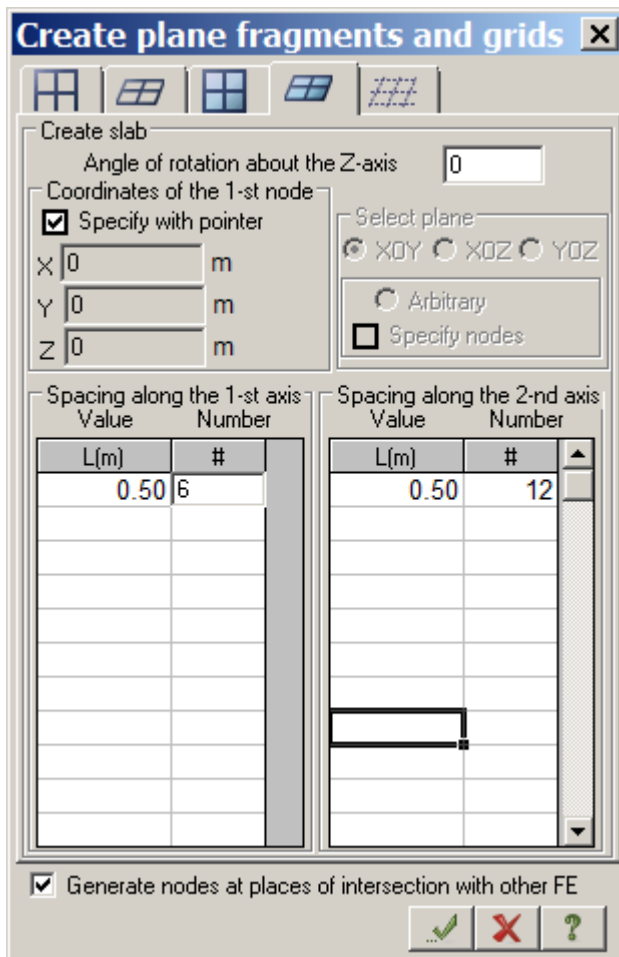

Figure 2.3 Create plane fragments and grids dialog box
- other parameters remain by default (see Fig.2.3).